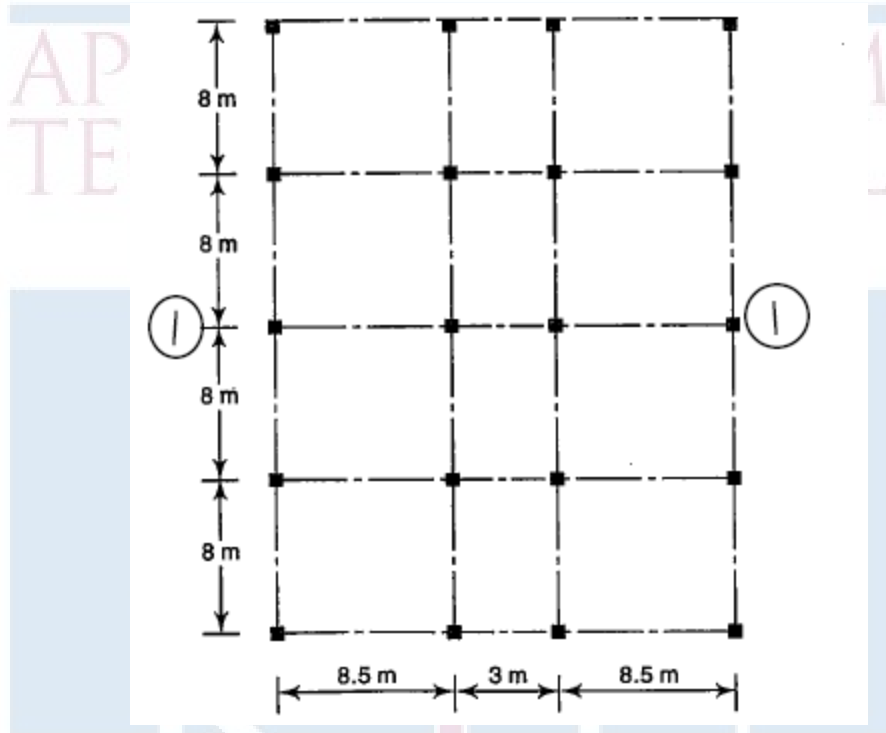

Fig.6.
19. a) Explain how the various building irregularities affect the behaviour of structures to earthquake excitation. (6)
b) The plan of a five storey building is shown in Fig 6. Dead load including self weight of slabs, finishes, partitions etc can be assumed as 5 kN/m^2 and live load as 4 kN/m^2 on each floor and as 1.5 kN/m^2 on the roof. Determine the base shear and shears at different storey levels for the frame 1-1 marked in figure. (8)